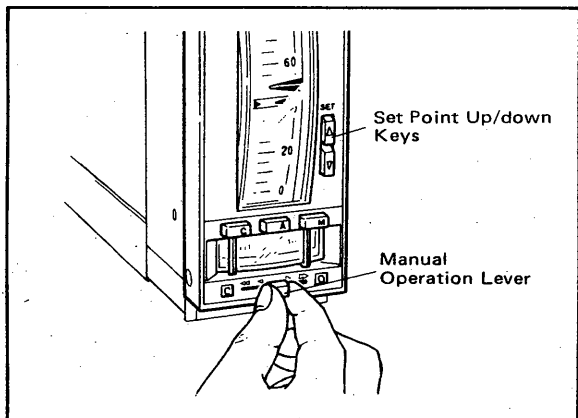

Figure 5-12. Manual Output Operation.
- b. Adjust the manipulated output signal by moving the manual operation lever to the left or right. (See Figure 5-12.)
- c. Set a desired set point by using the Set Point up/down keys. (See Figure 5-12.)